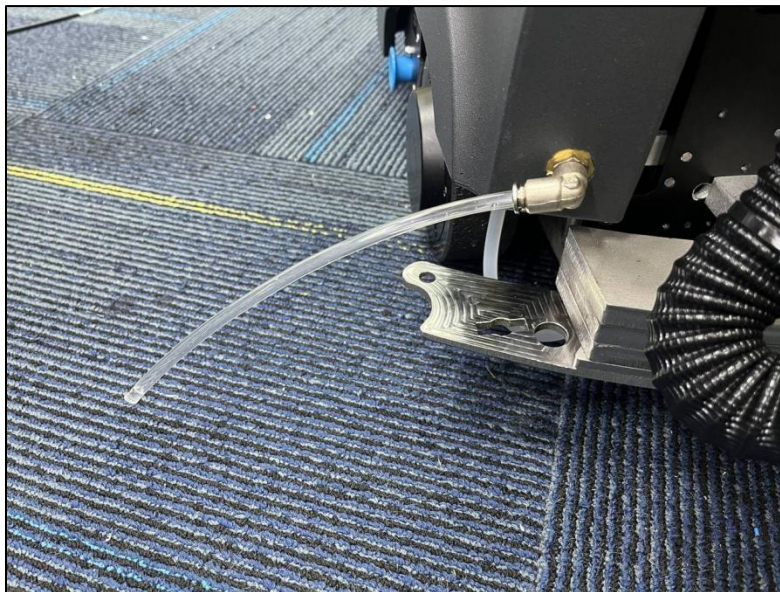

Fig. 2
3. Point the end of the tube towards the drain. The fitting can be rotated (Fig. 2).